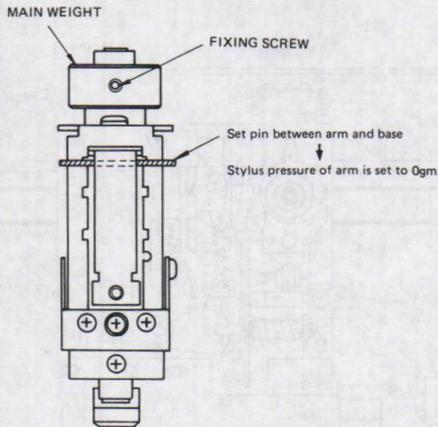

Fig. 3
- 1) With unit in state of Item 1-(1), allow a thread with small weight to hang from a top surface of set along the tone arm. Put a pin between the arm base and tone arm and set the stylus pressure of tone arm at Og. (See Figs. 3 and 4)